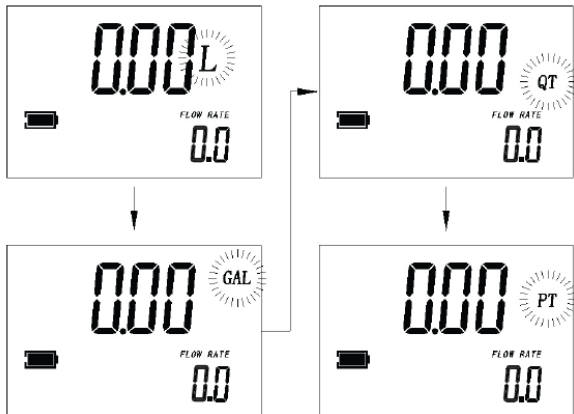

Fig. 6
**Measurement unit change (See Fig. 6)**